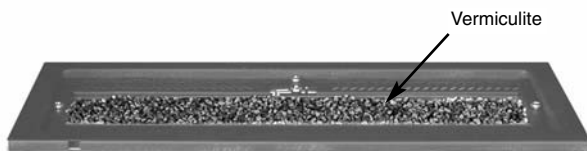

Fig. 24
1. Fill the burner with the vermiculite supplied (Fig. 24).